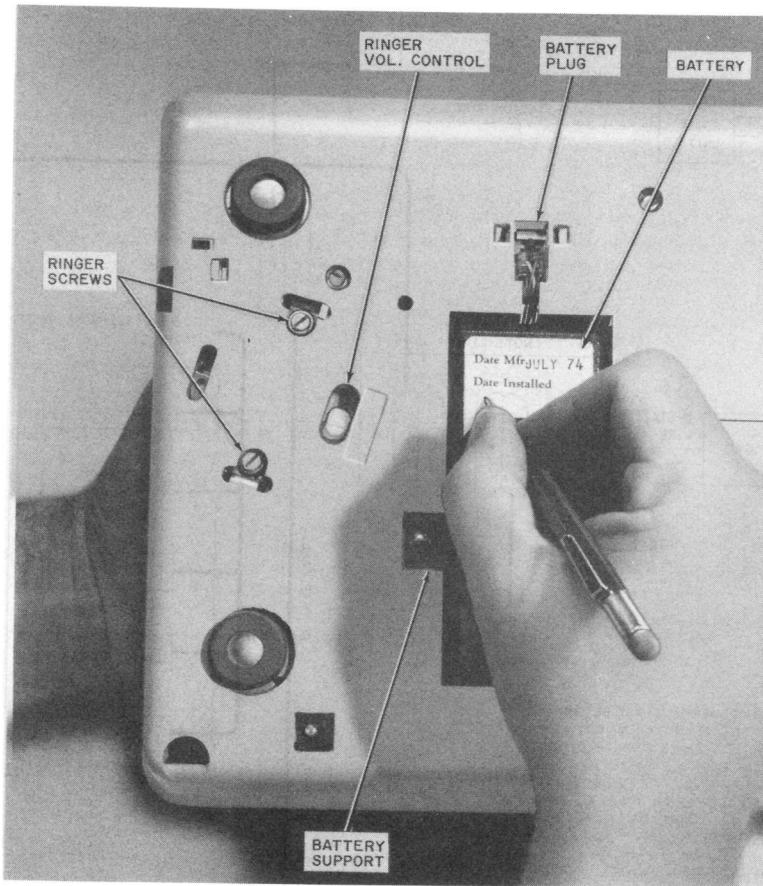

Fig. 7—2872A1M (MD) or 2872A2M Telephone Set, Bottom View
(3) The battery is located in the bottom of telephone set (Fig. 7).